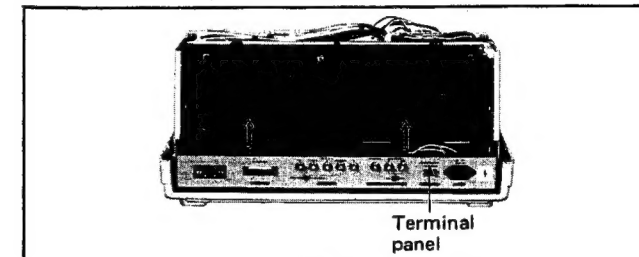

Fig. 9
- Then carefully pull and lift the Terminal Panel for removal in fig. 9.